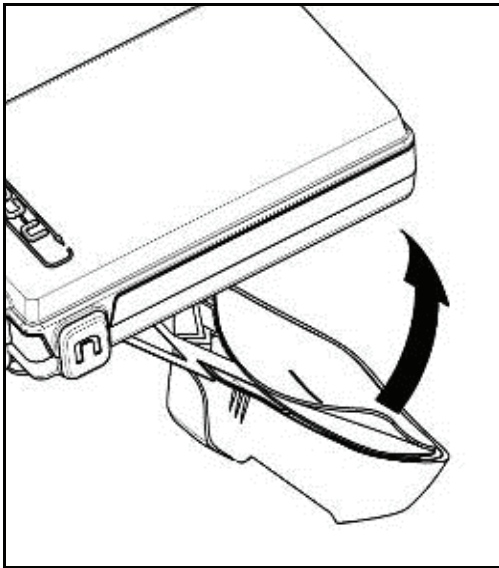

Fig. 2
- Remove the protective film from the double-sided adhesive tape located in the rear of the system ESS (Fig. 2)